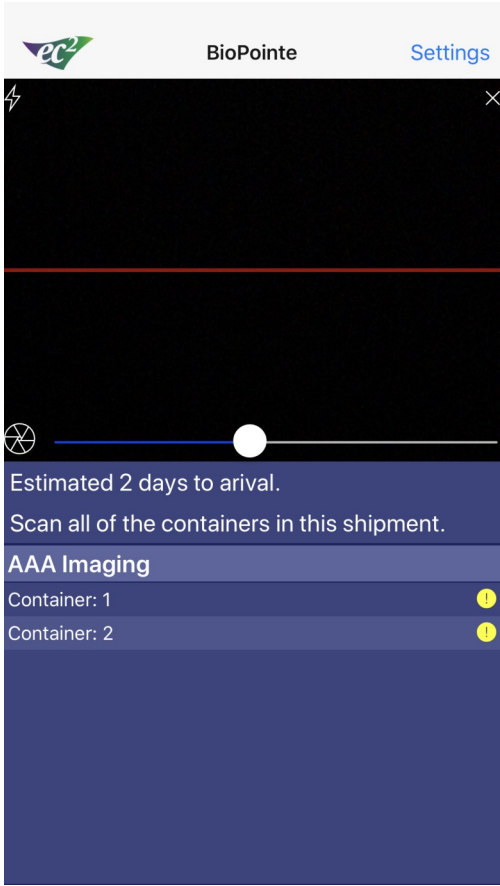

Fig 5
- a. Containers are listed below. Container barcodes need to be scanned. Click on the camera and begin scanning. See Fig 5